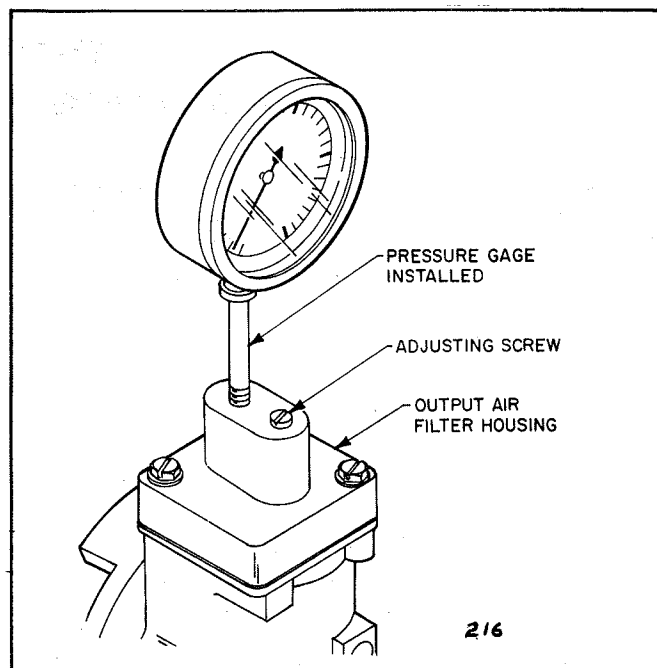

Figure 7. Pressure Gage Installation
1. Install the pressure gage into the output air filter housing. (See Figure 7.)